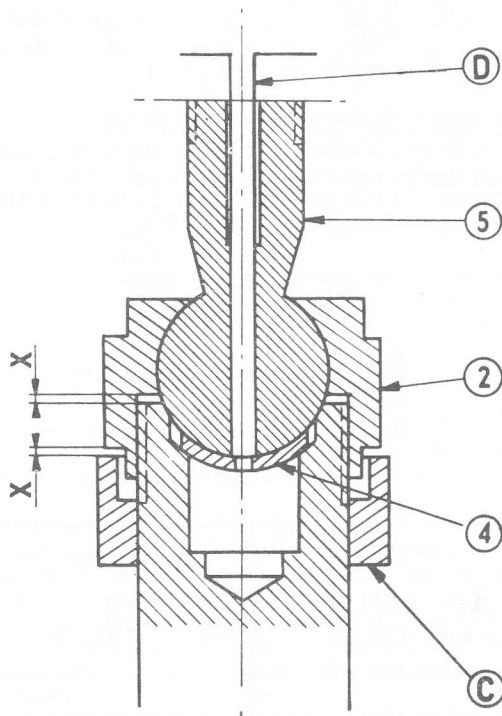

FIG 9:11 Adjusting the rack ball head assembly
- 3 Refer to FIG 9:13 and refit in the following order the ball bolt, nylon half bearing shell, four Belleville washers and the ball head cap.
Key to FIG 9:11 2 Ball head housing 4 Ball head shell